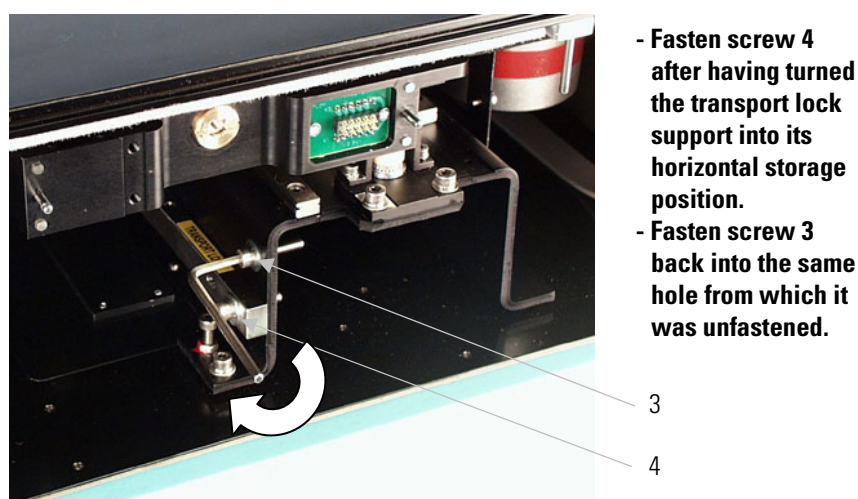

Figure 3–28. Transport lock in its horizontal storage position (screws 3 and 4 shown)
9. Tighten the bottom screw marked number 4 firmly once you have turned the transport lock support into its horizontal storage position (Figure 3–28).